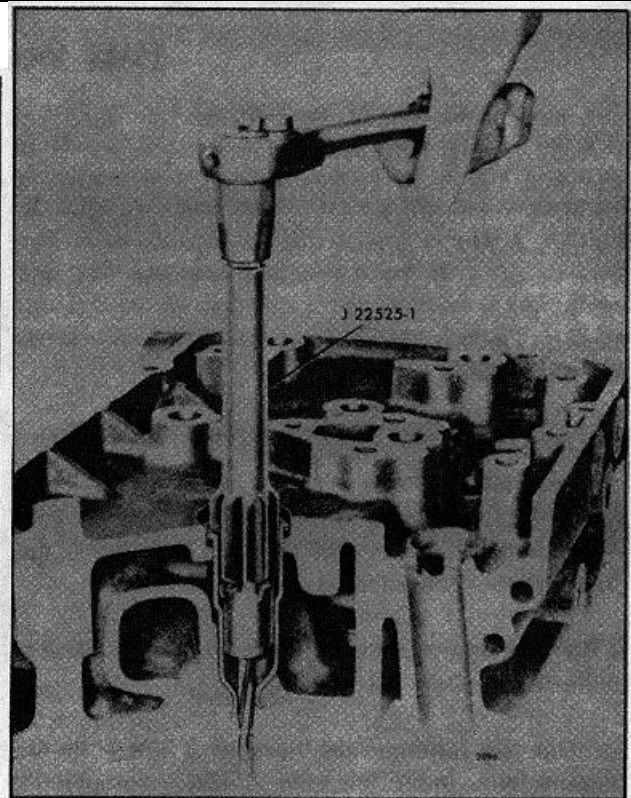
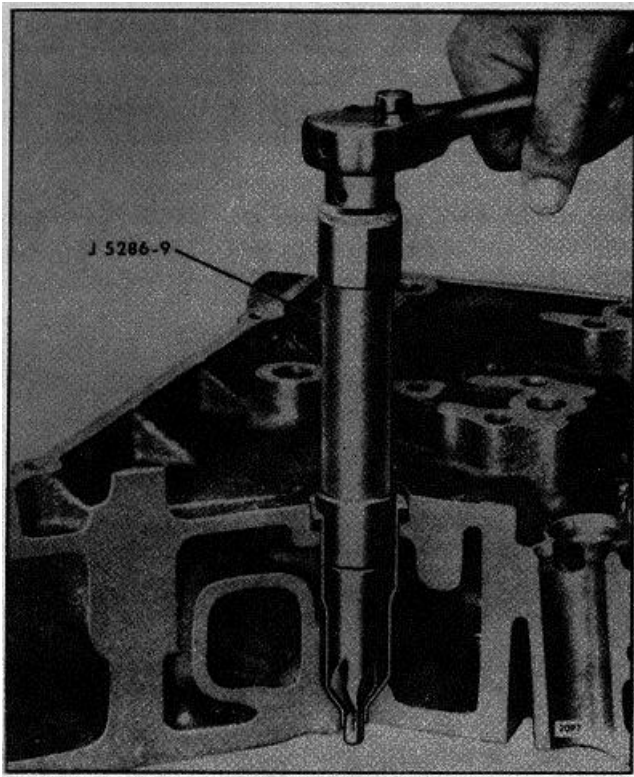

Fig. 4 - Reaming Injector Tube for Injector Body Nut and Spray Tip
Fig. 5 - Reaming Injector Tube for Injector Nut
After an injector tube has been installed in a cylinder head, it must be finished in three operations: First, hand reamed, as shown in Fig. 4, to receive the injector body nut and spray tip; second, spot-faced to remove excess stock at the lower end of the injector tube; and third, hand reamed, as shown in Fig. 5, to provide a good seating surface for the bevel or the lower end of the injector nut. Reaming must be done carefully and without undue force or speed so as to avoid cutting through the thin wall of the injector tube.
- b. Turn the reamer in a clockwise direction (withdrawing the reamer frequently for removal of chips) until the lower shoulder of the reamer contacts the injector tube (Fig. 4). Clean out all of the chips.